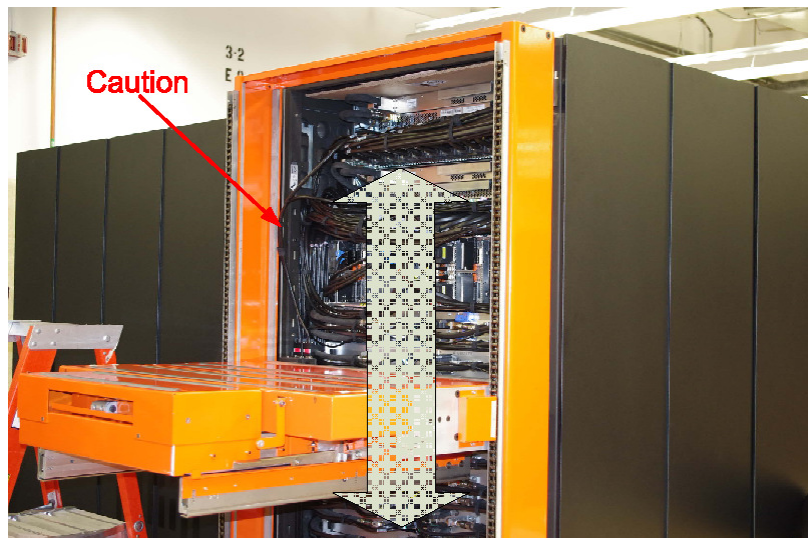

Figure 33: Lift Table Movement Path
STEP 33 Ensure that all the cables of the rack are dressed such that the lift table will not catch on cables as it is moved up and down across the face of the rack (see Figure 33 and Figure 34).